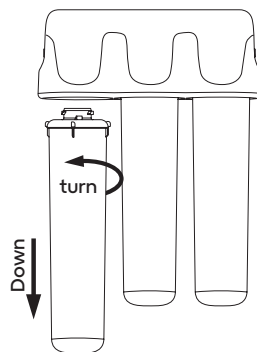

Fig. 4
- Close water before the water purifier fountain and open the drinking faucet (5) to discharge pressure.
- Rotate the cartridge counterclockwise to remove it (Fig. 4).